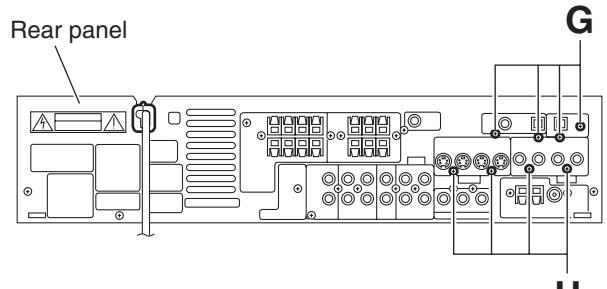

Fig.6
(See Figs.6 and 7)
- (1) From the back side of the main body, remove the four screws **G** attaching the DSP board to the rear panel. (See Fig.6.)
- (1) From the back side of the main body, remove the four screws **H** attaching the video jack board. (See Fig.6.)